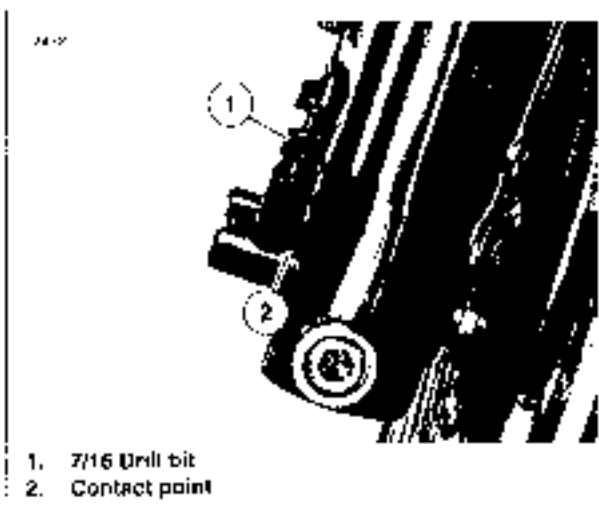

Figure 1-19. Dual Caliper Alignment
- On the right side of the vehicle, the pad with two tabs (1) installs on the inboard side of the caliper.
- On the left side of the vehicle, the pad with two tabs (1), installs on the outboard side of the caliper.
- a. See Figure 1-19. On models with dual front calipers, check alignment of brake discs to calipers. Loosen axle pinch bolt nuts. Tighten axle nut to proper torque. Insert a 7/16 in. drill bit (1) through hole in front axle as far as it will go. Contact point (2) must have edge of drill bit touching the edge of fork, eg. See 2.4 FRONT WHEEL.